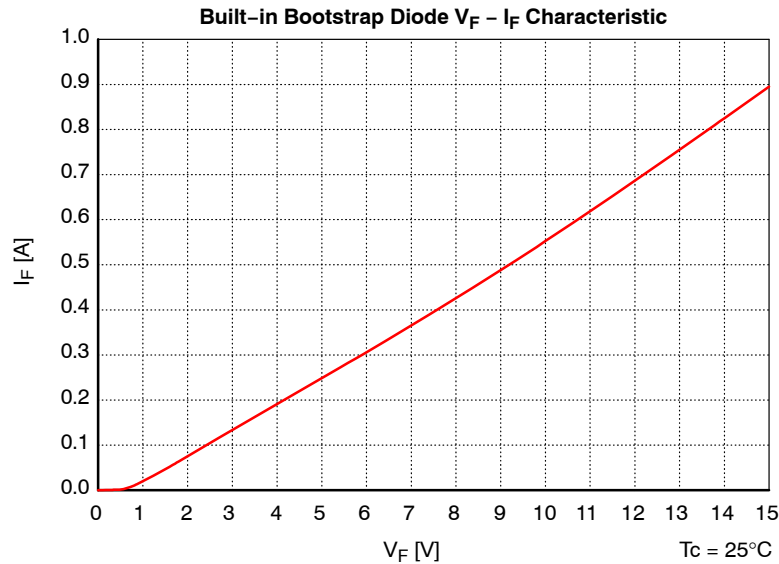

Figure 2. Built-in Bootstrap Diode Characteristics (Typical)
- Built-in bootstrap diode includes around $15\ \Omega$ resistance characteristic. Please refer to Figure 2.